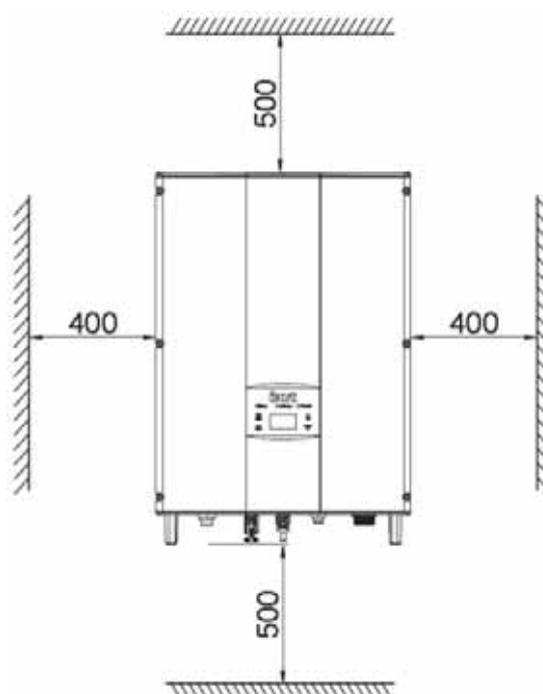
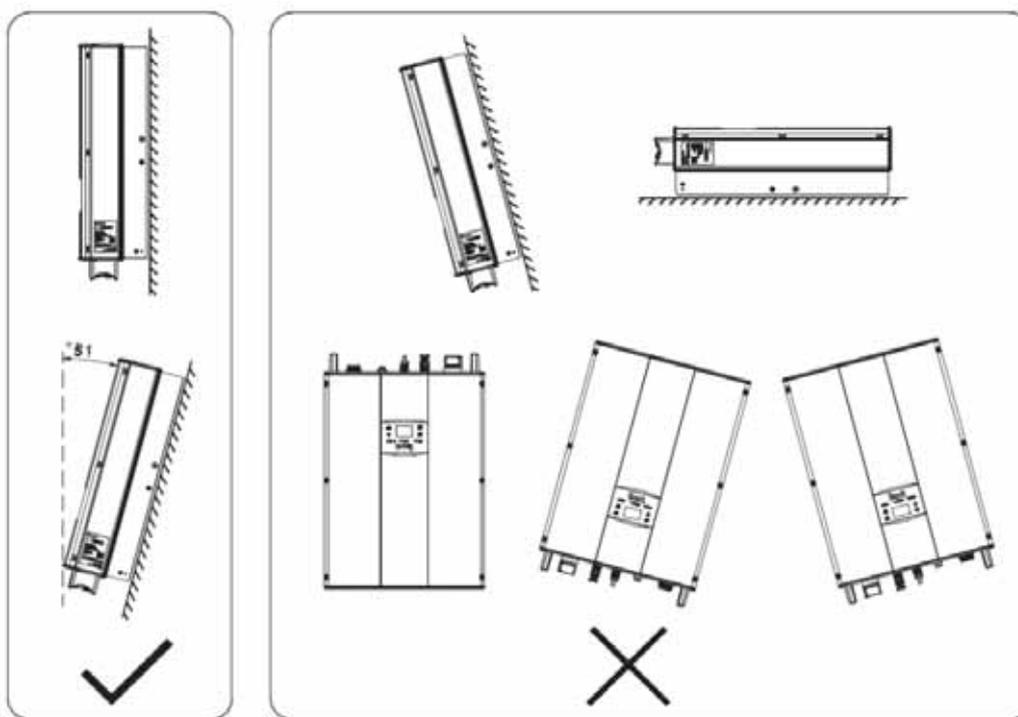

Figure 4.1 Installation space
Figure 4.2 Installation position
- (1) Height from ground level should be enough to ensure that display and status LCD are easy to read.
- (2) Select a well ventilated place sheltered from direct sun radiation and rain.
- (3) Allow sufficient space around the inverter to enable easy installation and removal from the mounting surface. Refer to Figure 4.1.
- (4) The environment temperature is between -25°C ~ 60°C .
- (5) The installation position keeps away from the interface of other electrical device.
- (6) The inverter needs to be installed on a firm and sturdy surface, such as wall and metal bracket and so on.
- (7) The installation surface should be perpendicular to the horizontal line. Refer to Figure 4.2.
- (8) The installation should be ensure that the inverter is reliably grounded, and the material of grounded metal conductor should be consistent with the metal material reserved for the grounding of the inverter.
Since the installation place can be made by different construction materials, the inverter can be installed by different mounting methods. Take the typical installation environment as the example, the manual describes how to install the inverter on concrete wall. The inverter should be mounted in a vertical position of 90° to the horizontal line as shown in Figure 4.2.